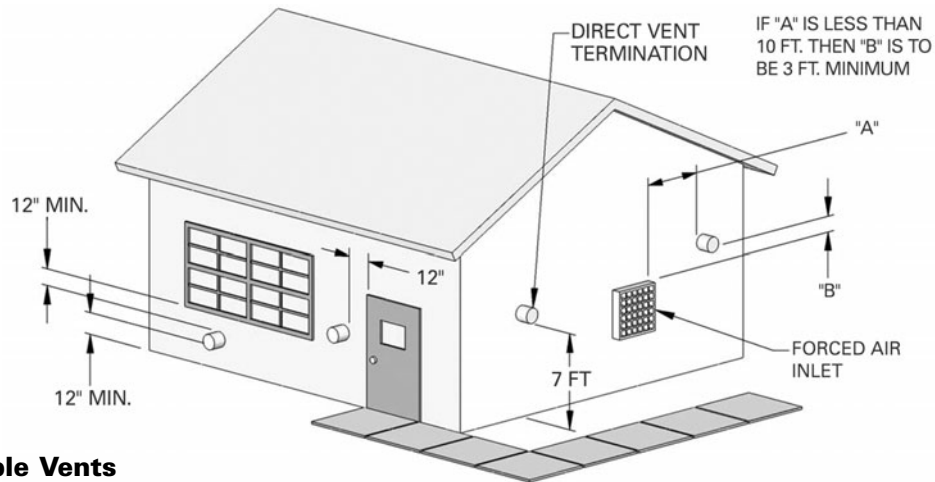

Fig. 6-3 Multiple Vents
- Follow required minimum clearances located in Fig. 6-3, 6-4, 6-5.